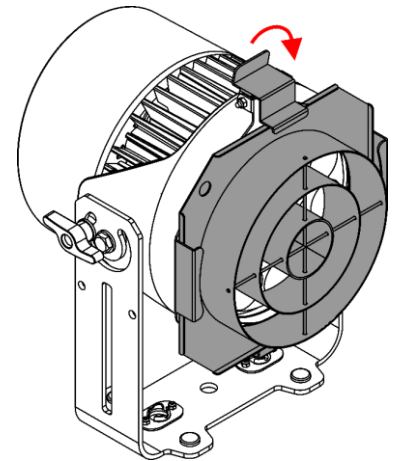

Fig. 14
- 04) Pull the spring-loaded retainer clip of the Accessory Holder downwards (Fig. 14). The Top Hat will be locked in position.